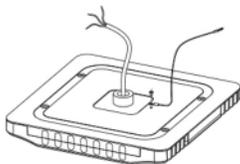

Figure 1
1. Fix the safety rope on the back of fixture (Figure 1).